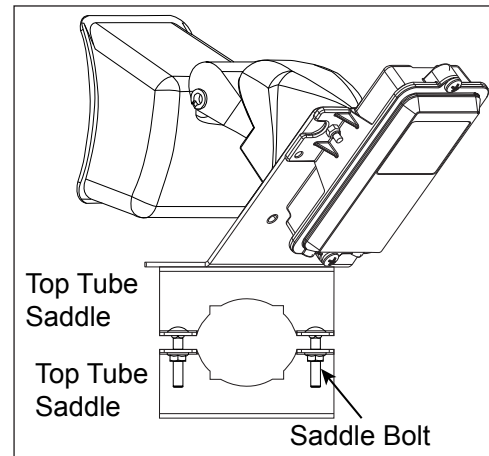

Figure 21: Mobotix Webcam Mounting
4. Slide the webcam between the top and bottom tube saddles until it is two inches from the end of the webcam arm. Refer to **Figure 21**.